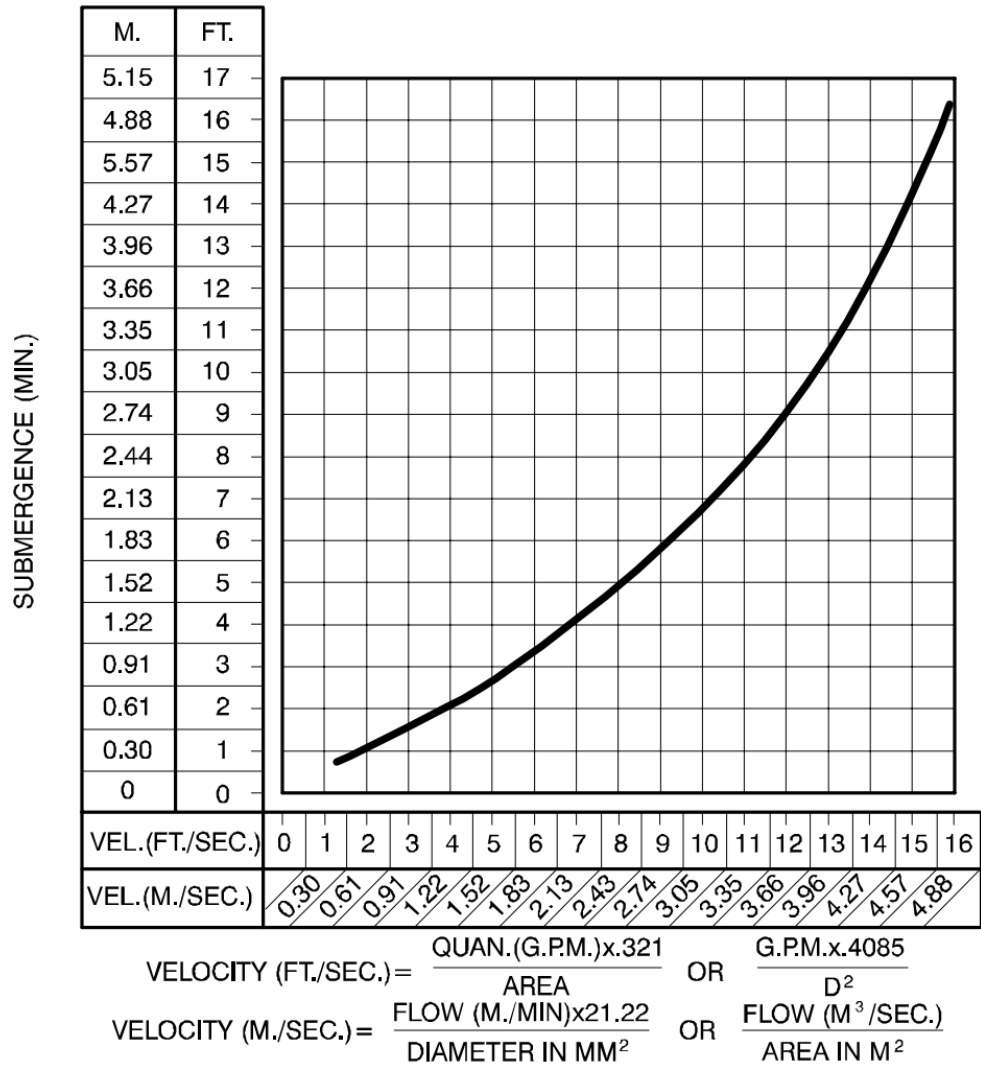

Figure 2. Recommended Minimum Suction Line Submergence vs. Velocity
2. Level the pump base plate assembly. If the base plate has machined coplanar mounting surfaces, these machined surfaces are to be referenced when leveling the base plate. This may require that the pump and motor be removed from the base plate in order to reference the machined faces. If the base plate is without machined coplanar mounting surfaces, the pump and motor are to be left on the base plate. The proper surfaces to reference when leveling the pump base plate assembly are the pump suction and discharge flanges. DO NOT stress the base plate. Do not bolt the suction or discharge flanges of the pump to the piping until the base plate foundation is completely installed. If equipped, use leveling jackscrews to level the base plate. If jackscrews are not provided, shims and wedges should be used (see figure 2). Check for levelness in both the longitudinal and lateral directions. Shims should be placed at all base anchor bolt locations, and in the middle edge of the base if the base is more than five feet long. Do not rely on the bottom of the base plate to be flat. Standard base plate bottoms are not machined, and it is not likely that the field mounting surface is flat.
The depth of submergence of the suction line is critical to efficient pump operation. **Figure 2** shows recommended minimum submergence vs. velocity.